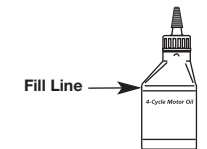

Fig. 28
- Refill the crankcase with 3.04 fluid ounce (90 ml) of SAE 30 SF, SG, SH oil (Fig. 28).